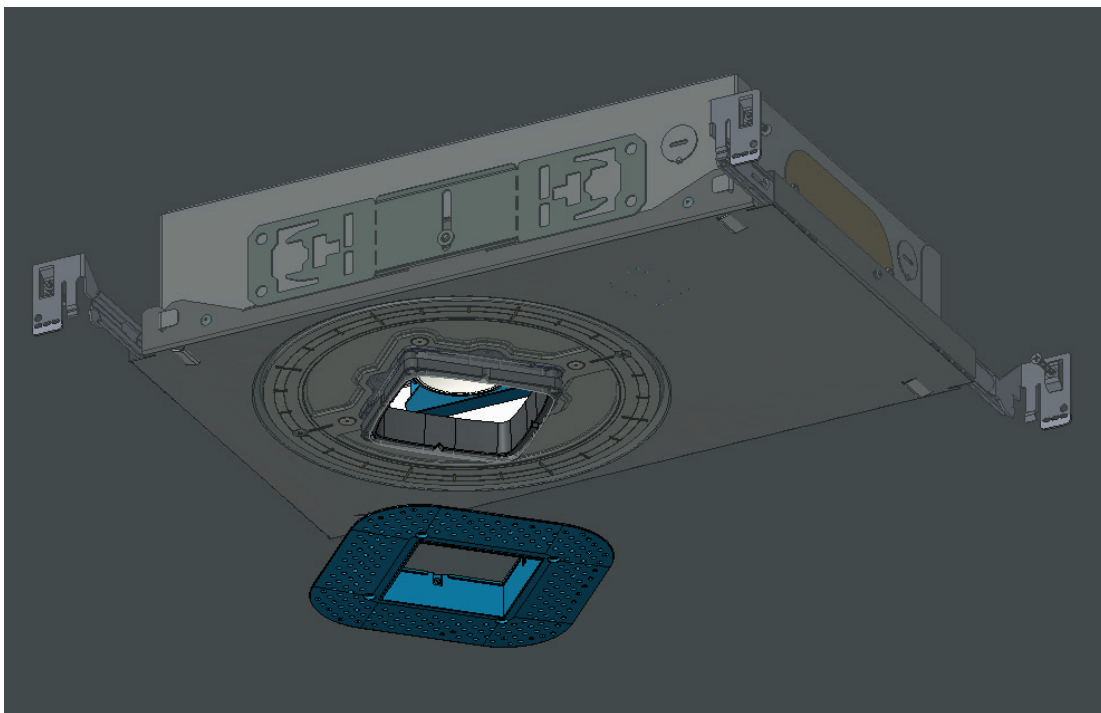

fig. 10
1. Align the retainer assembly such that the holes in the retainer line up with the screw posts in the collar (see fig. 10).